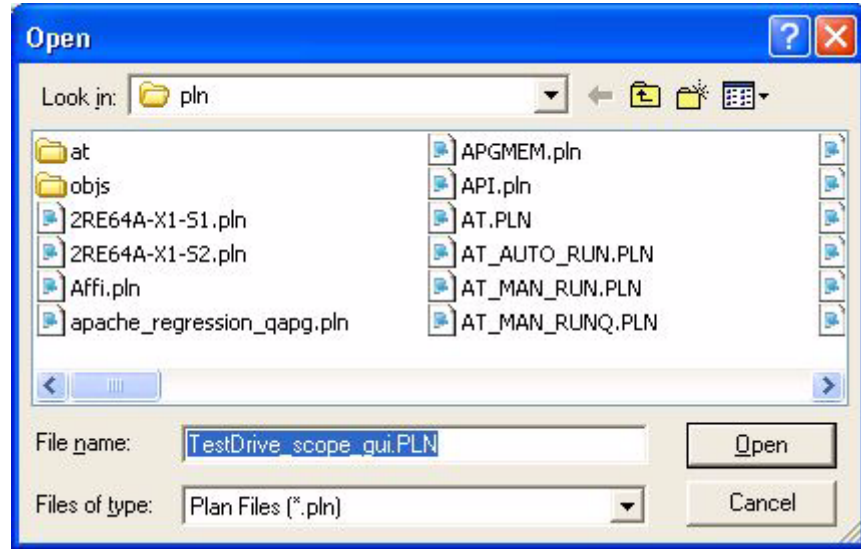

Figure 6-46. Select Test Plan Dialog Box
- 3 Selecting the **Test Plan** button displays the **Open** dialog box (Figure 6-46) that lists the available plan files. Test plan files define the tester setup that is used. The `TestDrive_scope_gui.PLN` plan file will be used for this example.